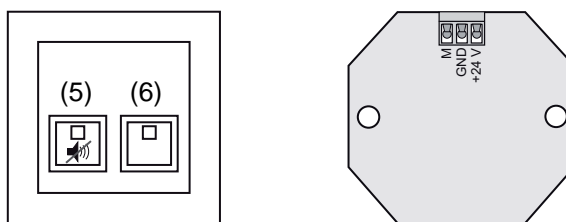

Figure 6: Shut-off/presence push-button cover with frame (left), rear view insert (right)
- Press the yellow shut-off button in the service room (Figure 6, 5).